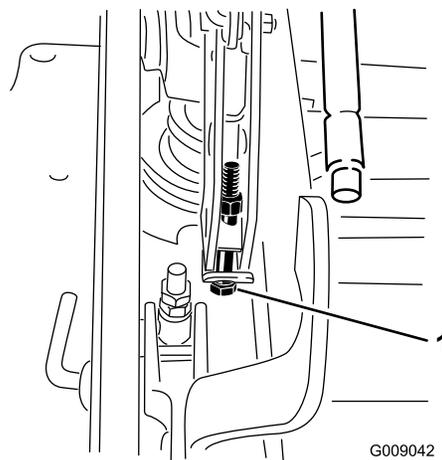

**Figure 93**
11. To adjust the single-point system, loosen the 2 bolts at the bottom of the height-of-cut plate (Figure 93).
13. Tighten the 2 bolts at the bottom of the height-of-cut plate (Figure 93).